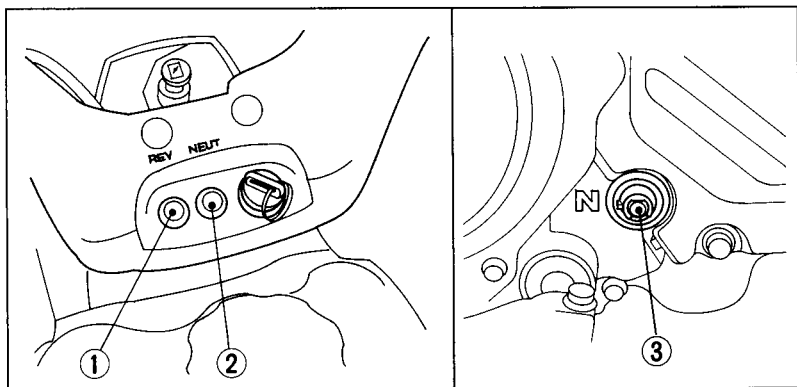

Fig. 2-10
The reverse indicator lamp (1) and the neutral indicator lamp (2) (Fig. 2-10) are next to the ignition switch. These lamps allow the rider to verify that the transmission is in reverse or in neutral.